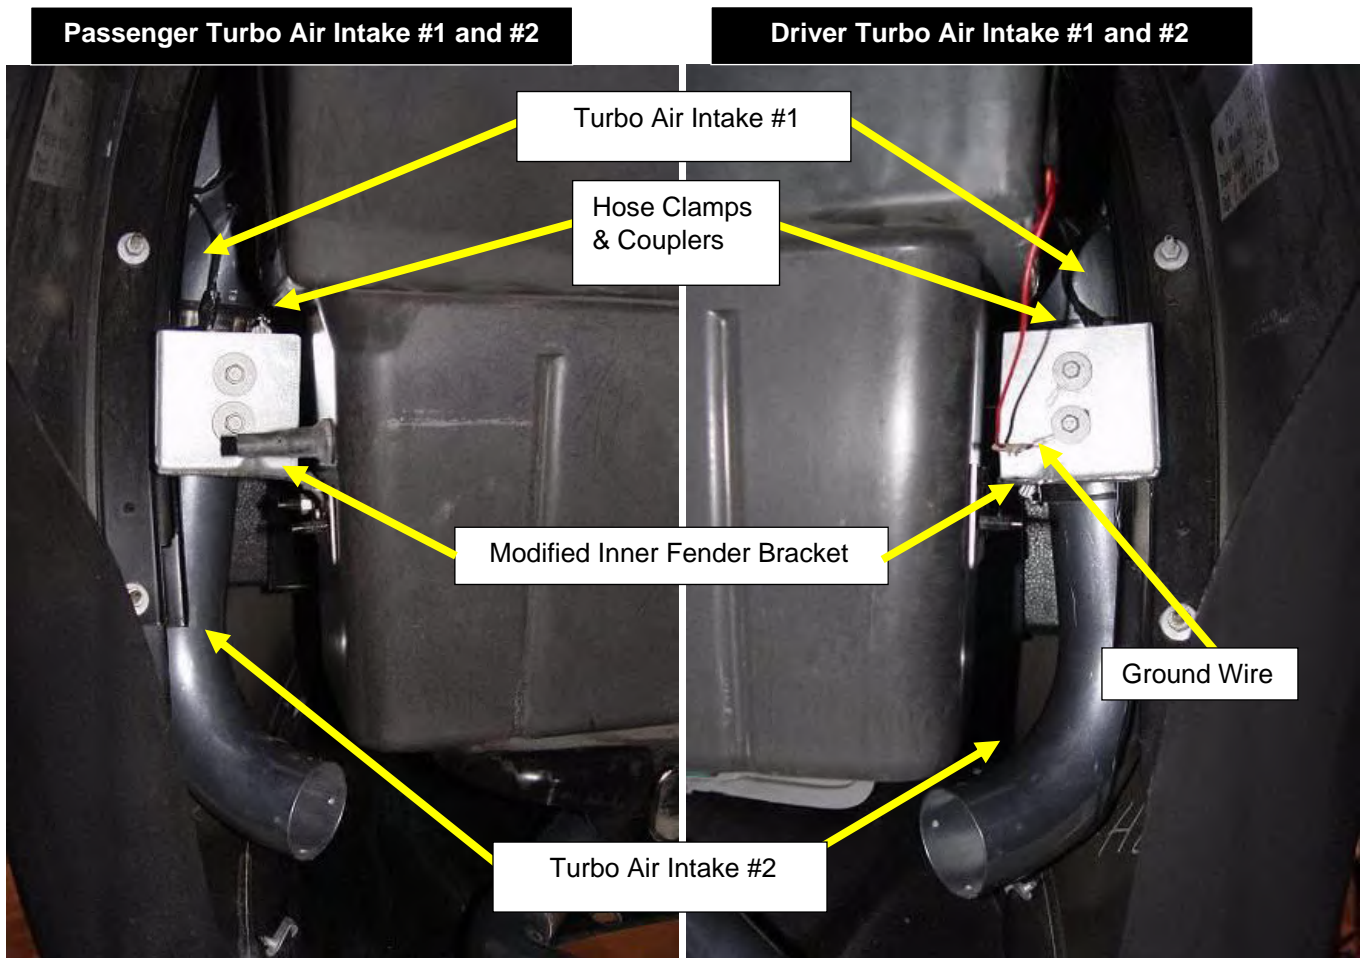

Figure 60
1. Install the left (driver's side) and right (passenger's side) turbo air intake pipe #1 (visual reference #4 and #14 page 6) through the taillight opening and "loosely" secure the bracket to the 6mm stud on the trunk wall using the fender washer supplied and the existing flange nut on the stud. The bracket should be on the inside of the tube against the trunk wall. The short end of the tube will be located behind the mounting bracket for the inner fender support bracket when installed (**Figure 60**).
3. Install a second clamp on to the coupler of turbo air intake #2 and position so it can be tightened from inside the wheel well just over top of the fender bracket (**Figure 60**).
4. Install the left (driver's side) and the right (passenger's) turbo air intake pipe #2 on to the turbo air intake pipe #1 previously installed. Snug the clamp just enough to hold the clamp in place at the top edge of the coupler, but still be able to adjust the tube if necessary (**Figure 60**).